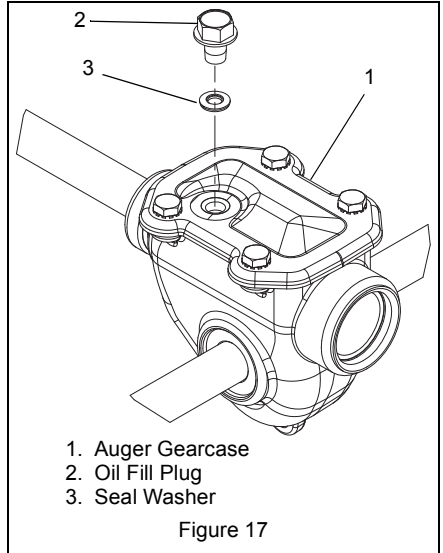

Figure 17
(Figure 17)
1. Remove oil fill plug and seal washer (Figure 17). Lubricant must be 1.63 in. – 1.88 in. (4.14 cm – 4.78 cm) from the flat surface of the gear case cover.
IMPORTANT: Be sure to install seal washer with rubber side down (Figure 17).